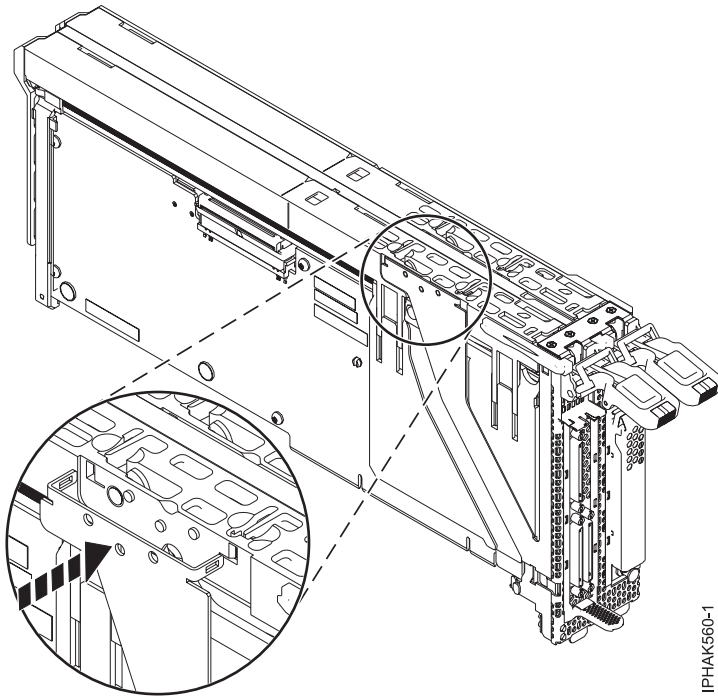

Figure 61. Attaching the face plate
8. Press the outer arms of the face plate assembly into place. See Figure 61 on page 76.